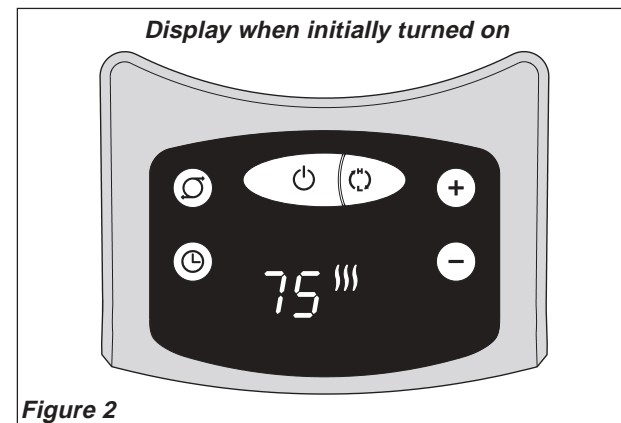

Figure 2
7. Upon turning the Heater on, the unit will be in HIGH heat (⏻) (1500 Watts) and will display the current room temperature (Figure 2)